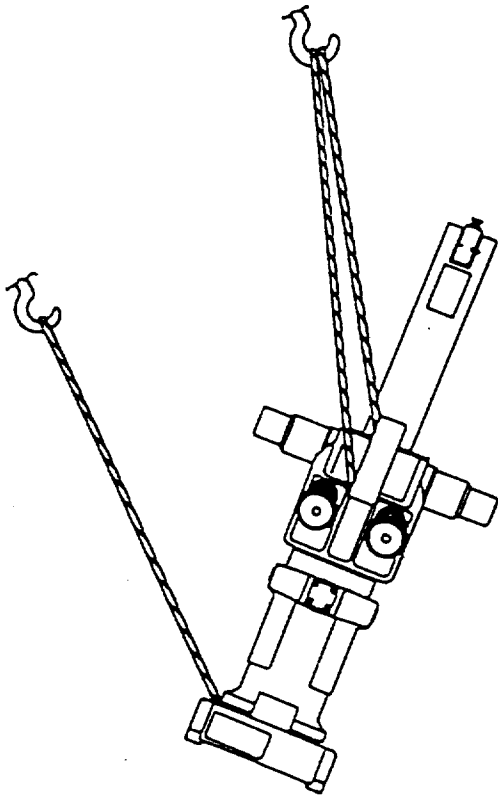

Figure 2-8
4. Lift the body/base with the telpher (or similar) to make the robot turn. See Figures 2-8 and 2-9.